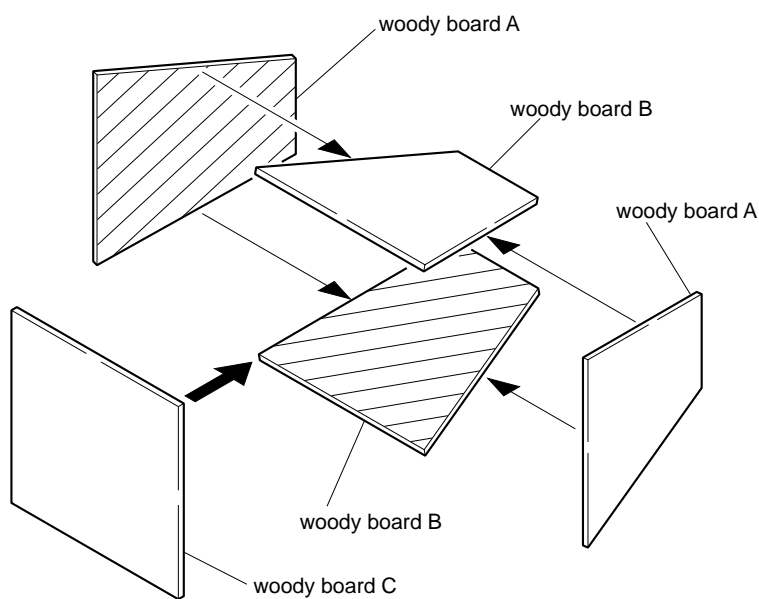

Fig. 6-1-7
- 4) Assemble so that the black sides and the background paper side of woody board A, B and C are internal. (Fig. 6-1-7)